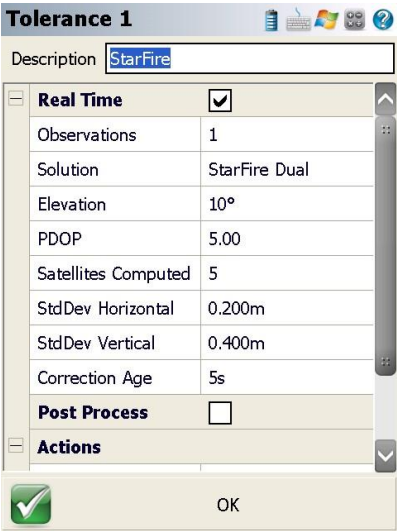

Figure 54: Tolerance 1/StarFire
5. On the **Tolerance 1** dialog box (refer to Figure 54), set the parameters and click **OK**.